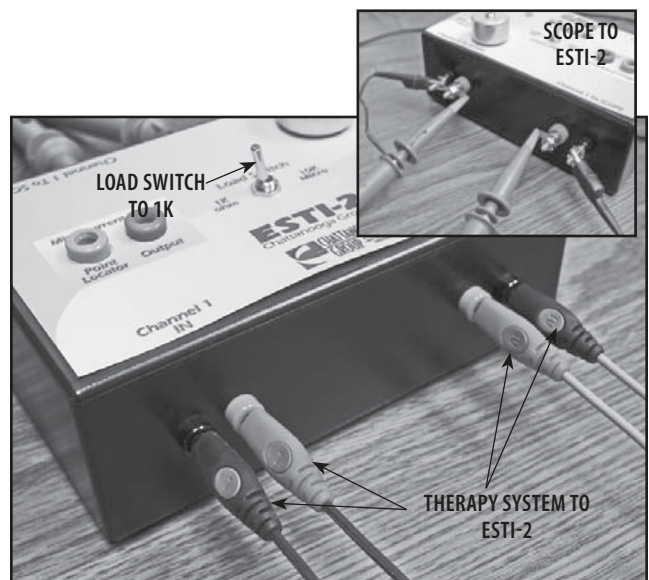

FIGURE 5.4
2. Connect Lead Wires from the system to the ESTI-2 Load Test Fixture- Channel 1 or 3 to Channel 1 IN and Channel 2 or 4 to Channel 2 IN. **See Figure 5.4.**
3. Connect Scope Probes to the Channel 1 To SCOPE and Channel 2 To SCOPE Tabs on the ESTI 2 Load Test Fixture respectively. **See Figure 5.4.**
4. Place ESTI-2 Load Switch in the 1 K position. **See Figure 5.4.**